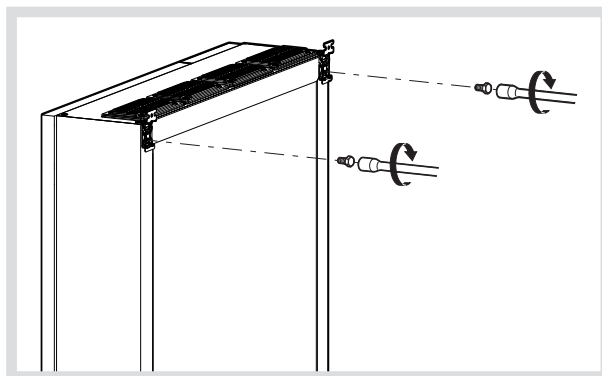

Figure 11: Assembly mounting tabs for wall mounting
- Screw 2 mounting tabs to the top of the back of the energy storage system to fix it into the supporting rail (Figure 11).